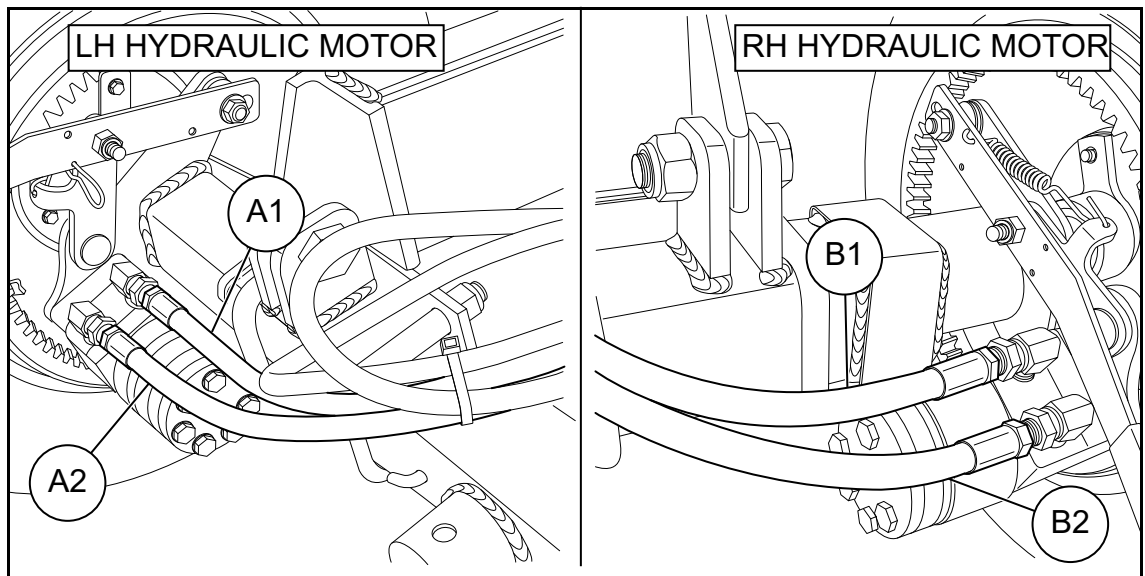

Figure 3.17 Hydraulic Motors
3. Attach hydraulic hoses A1, A2, B1, and B2 to the hydraulic motors (see Figure 3.17).